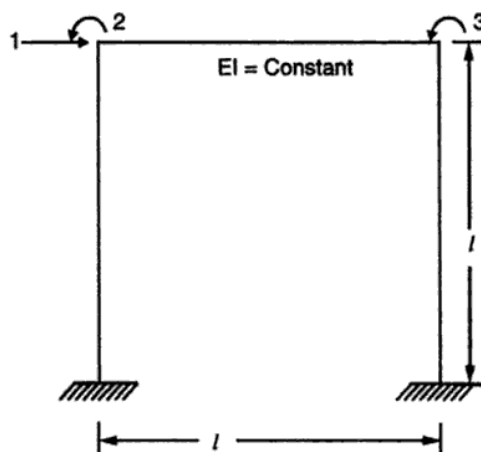

Figure 2.12
10. Generate the stiffness matrix for the structure with coordinate as shown in Figure 2.12 EI is constant